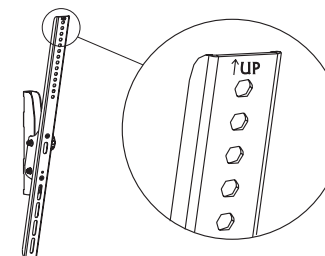

Fig. 1
For correct installing, make sure that hook of every bracket must facing down. Use selected bolts, spacers and washers for installing bracket at the back of display. Adjust two brackets to equal heights and level. Once aligned, tightly secure the bolts. **Note:** the "UP" side on the top. As shown in Fig. 1.
1. Some displays have vertical backs. No spacer is required. Install the bracket directly to the back of display by using bolts and square washers provided. As shown in Fig. 1 a.